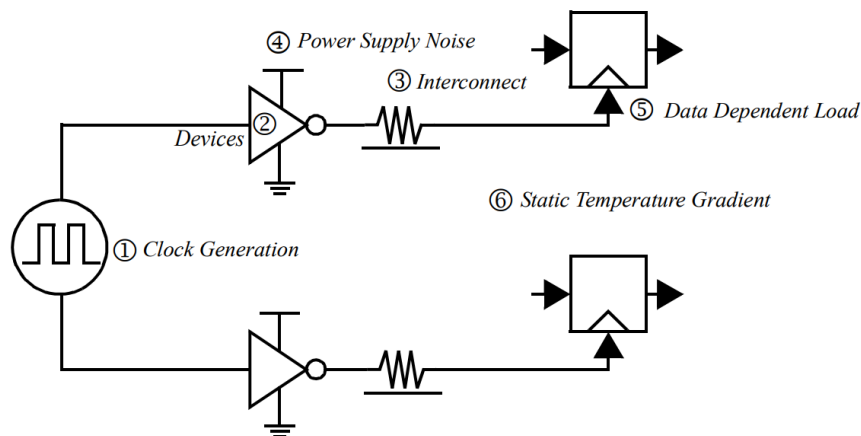

Fig. 4 Sources of Skew and Jitter in Clock Distribution.
- a) A balanced clock distribution scheme is shown in Figure 4. For each source of variation in Table 1, identify if it contributes to skew or jitter. [6 pts]